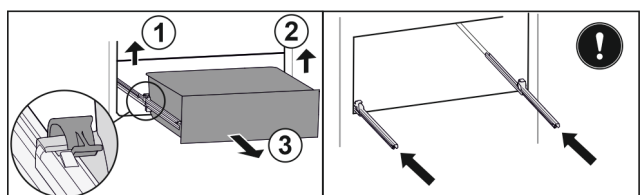

Fig. 138
- ▶ Lift left clamp and simultaneously pull drawer forwards on the left. Fig. 138 (1)
- ▶ Lift right clamp and simultaneously pull drawer forwards on the right. *Fig. 138 (2)*
- ▶ Remove drawer to the front. *Fig. 138 (3)*